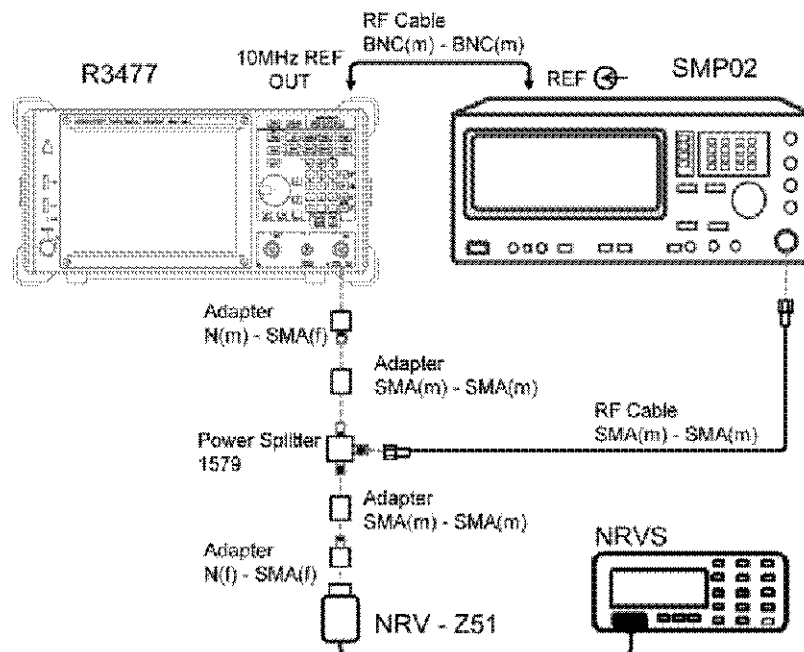

Figure 2-18 Image, Multiple, and Out-of Band Responses Test
1. Connect the instruments as shown in Figure 2-18.